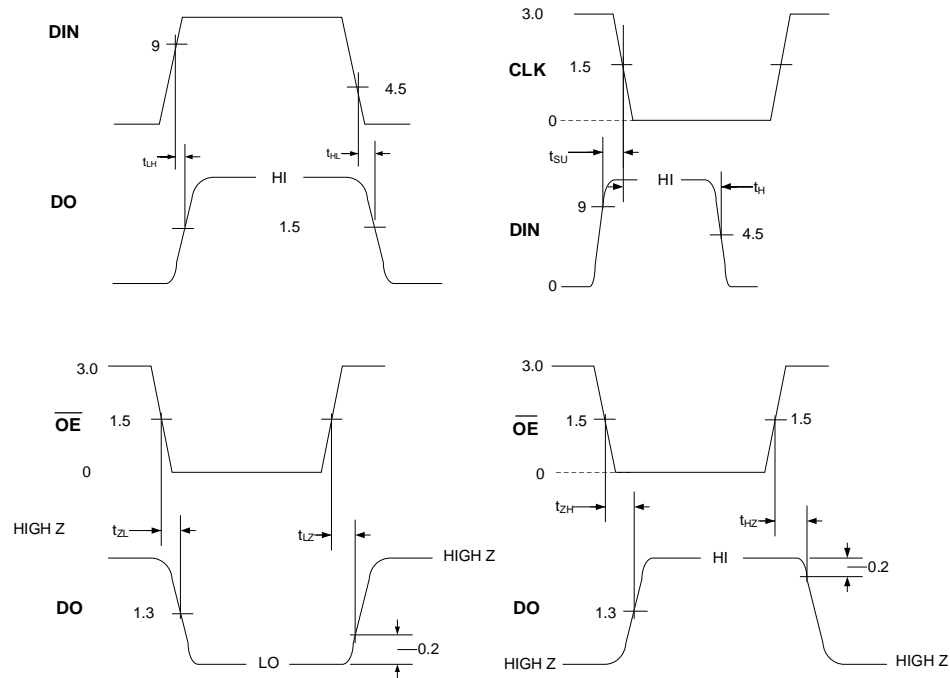

Figure 7 Switching Waveforms
3. Timing measured from $DO = 1.5V$ to $V_{DIN} = 9V$ (Rising Edge)/ $4.5V$ (Falling Edge). See Figure 7.
5. Timing measured from /OE= $1.5V$ to $DO=200mV$. See Figure 7.
6. Timing measured from $CLK = 1.5V$ to $V_{DIN} = 9V$ (Rising Edge)/ $4.5V$ (Falling Edge). See Figure 7.